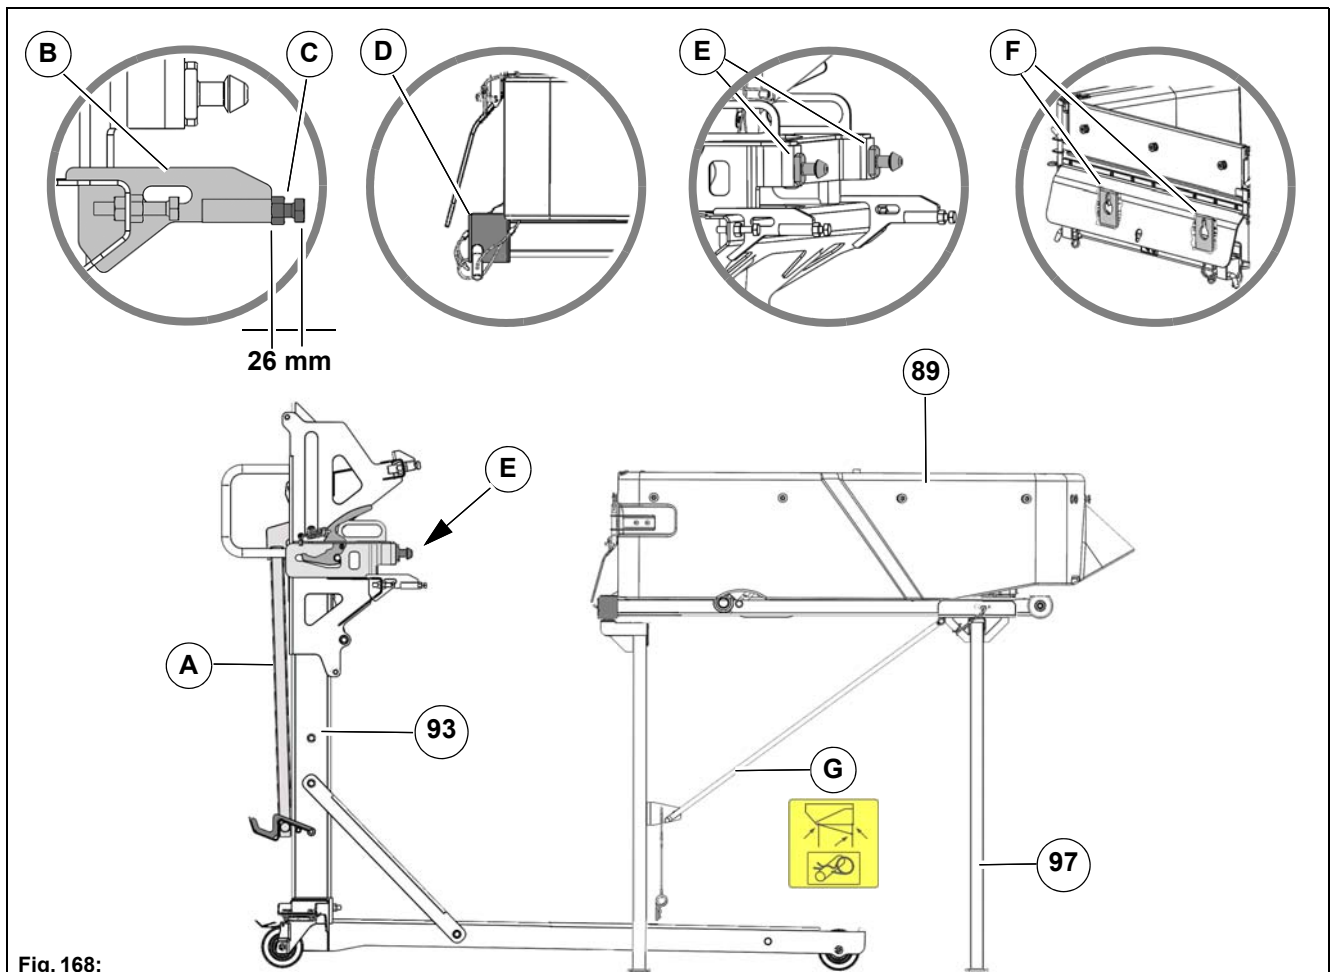

Fig. 168:
Risk of injury due to tilting over! Make sure that the cross strut **Fig. 168-G** has been inserted when transporting the loading platform on the supports **Fig. 168-97**. Secure the supports with bolts and splints.
5. Push the trolley with the lower positioning aid **Fig. 168-B** against the fixed bearings **Fig. 168-D** of the loading platform. The screw **Fig. 168-C** must be adjusted to 26 mm!
6. Carefully lower the lever **Fig. 168-A** of the trolley and make sure that the locking pins **Fig. 168-E** sit in the holders **Fig. 168-F** of the loading platform. Lock the lever **Fig. 168-A**.